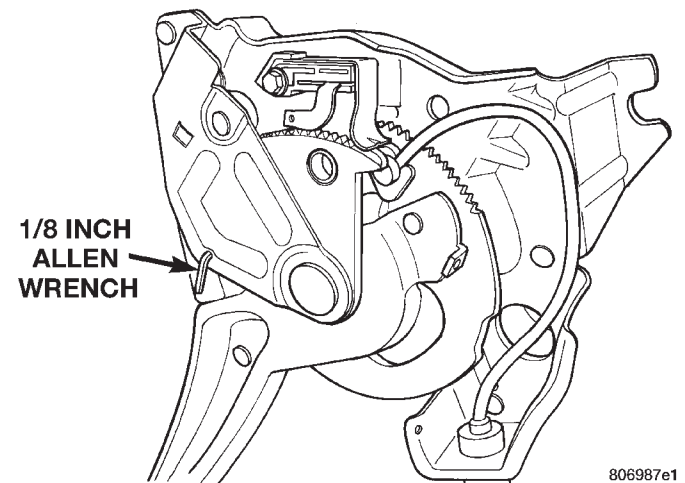

Fig. 40 Locking Pin Installed In Park Brake Mechanism
(3) Insert a 1/8 inch allen wrench through the two holes in the park brake pedal bracket and the sector locking the sector in place (Fig. 40).